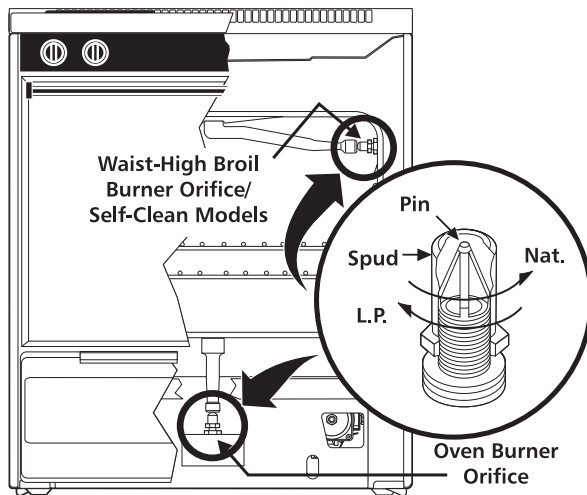

Figure 8
- a. Locate the oven burner spud (See Figure 8).
- b. Locate the broiler burner spud and turn down until snug against the LP/Propane metering pin (approximately 2-1/2 turns). **Do not over tighten** (See Figure 8).